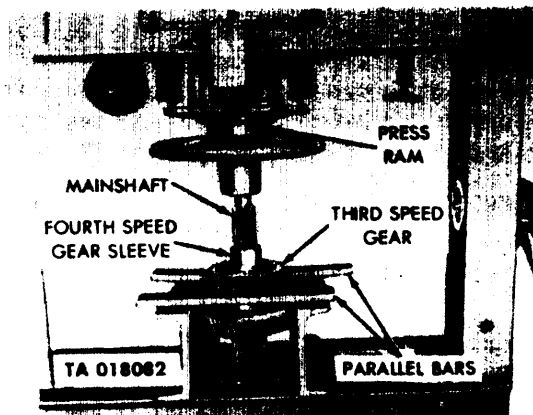

Figure 3-35. Removal of Third-Speed Gear and Fourth-Speed Gear Sleeve.
(2) Setup fixture as shown in figure 3-35. Apply pressure from the press ram and remove fourth-speed gear sleeve and third-speed gear.
(2) Coat the fourth-speed gear sleeve and mainshaft with white lead, Fed Spec TT-W-261C. Make an opening in the adapter puller large enough to slip through. Position the third-speed gear and fourth-speed gear sleeve to main drive shaft and press into place. See figure 3-35 for the correct positioning of third-speed gear and fourth-speed gear sleeve.
(3) Install mainshaft fourth-speed gear and thrust washer. Secure in place using a new snapping.